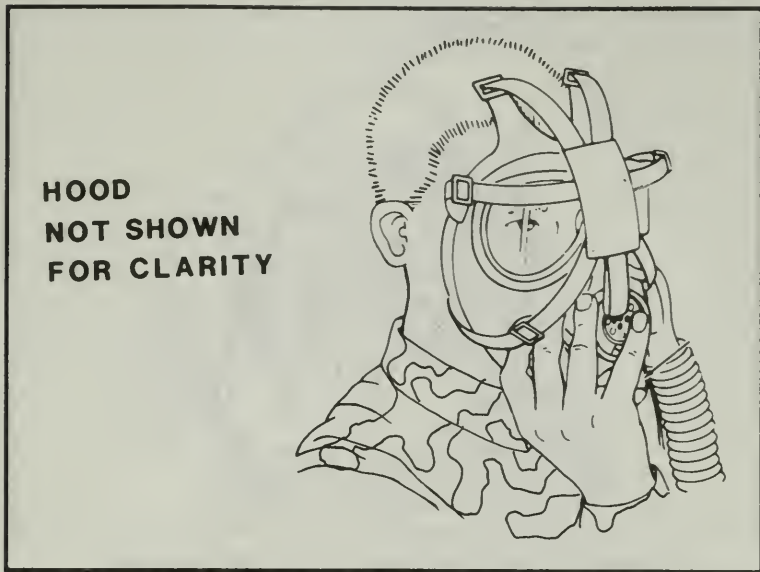

Figure 311. Clear protective mask.
f. Cover the openings at the bottom of the outlet valve (Figure 311) with the palm of your hand. Breathe out hard so that air escapes around the edges of the mask.